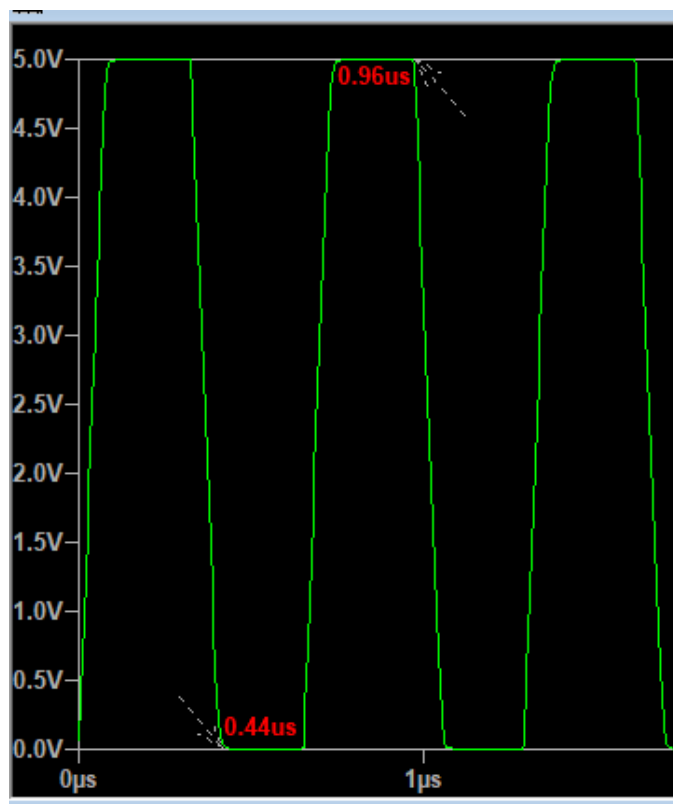

Figure 1
1. As we see in figure1, time period for node A is  $(0.52 \mu s = 0.96 - 0.44)$ .